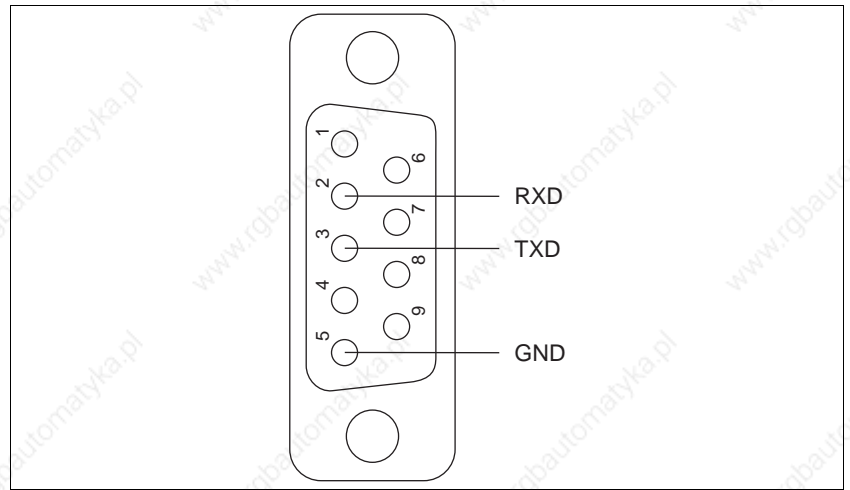
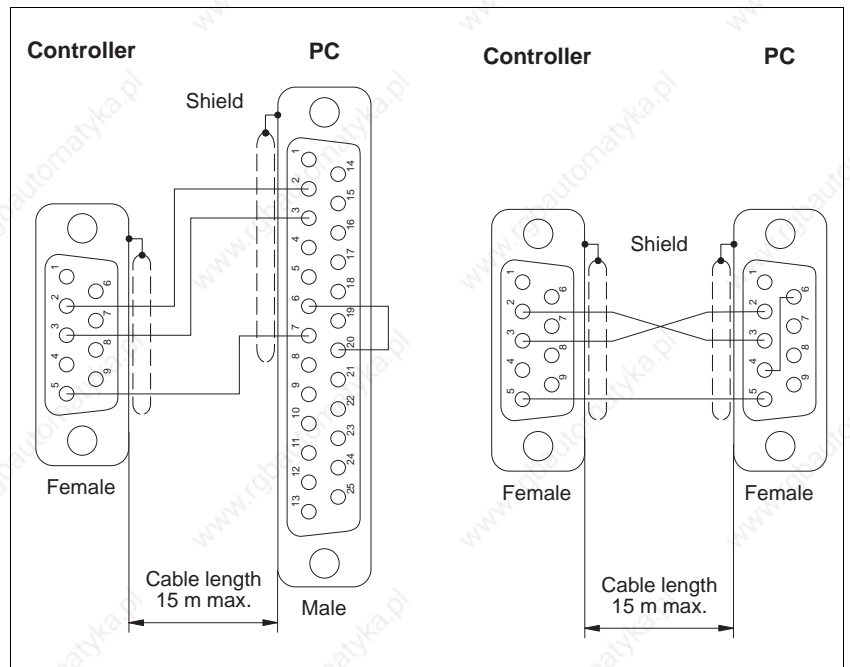

Fig. 2-12 Interface connection - device end
Fig. 2-13 Controller/PC wiring
1. Solder the litz wires to the connector as illustrated in fig. 2-12 and fig. 2-13.